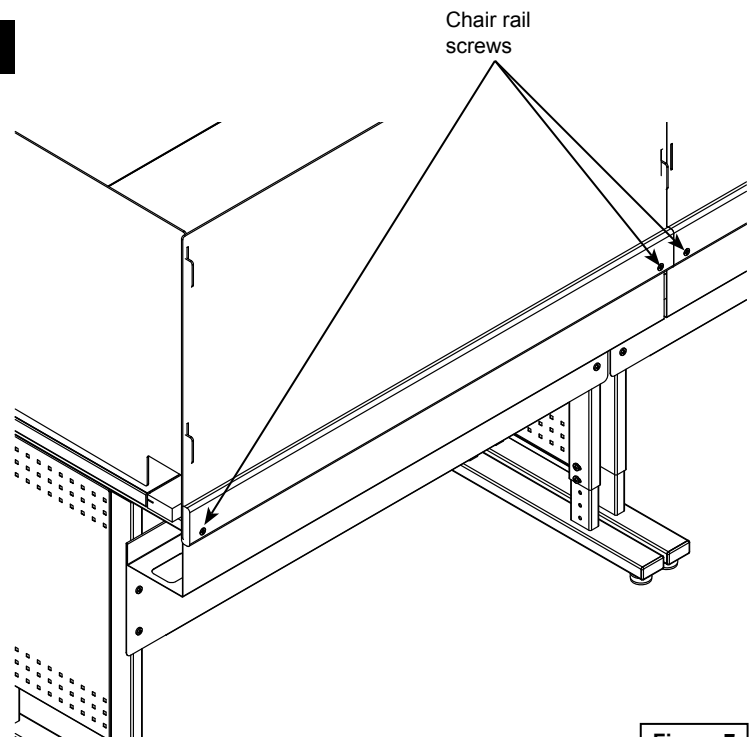

Figure 7
1. Retighten the chair rail screws to secure the divider. (Do not overtighten screws.) **Figure 7.**